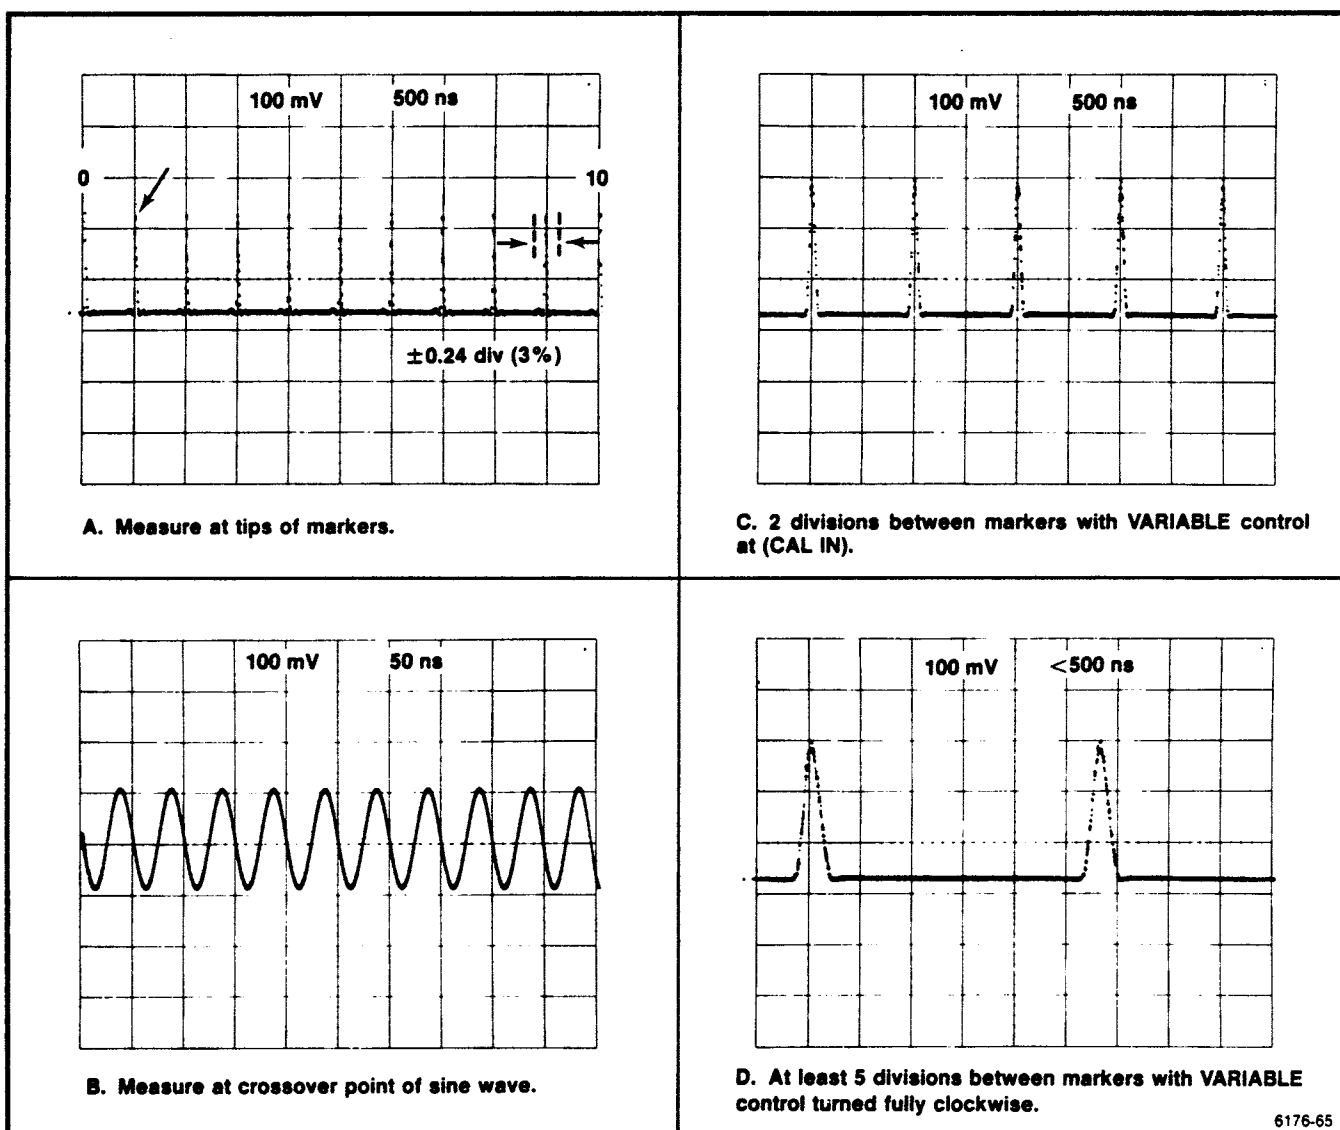

Figure 5-10. Typical displays for checking timing accuracy.
- d. **CHECK**—the display for one time mark per division  $\pm$  3%. See Figure 5-10 for typical timing displays.